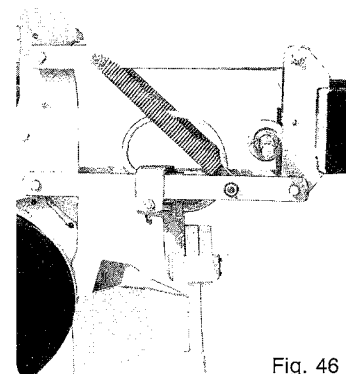

Fig. 46
The function of clod removers ⑫ is to clear the surface of the soil but not to plow a furrow. One use of the front brace of the clod remover is to slice open hard soil and move stones away from the track of the disc opener. They need to be adjusted accordingly. Using them in stony soils may be a problem because they can cause clogging and blocking. In this case it is better to choose an assembly with a flexible support bracket (fig.46) which is efficient in difficult conditions.